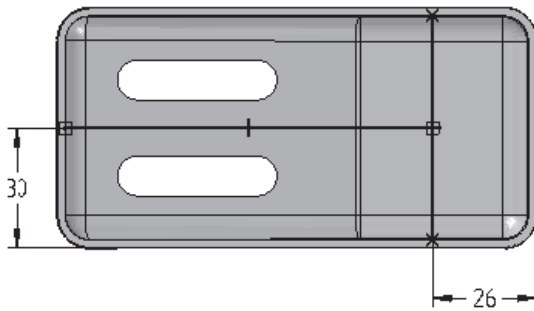

Figure 7-61 Profile for the web network
3. Draw the profile of the web network, as shown in Figure 7-61.